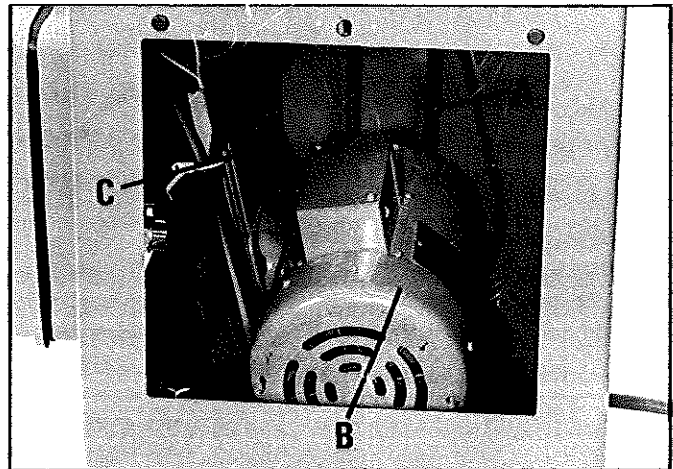

Fig. 5
Assemble the belt (A) Fig. 5, to the arbor pulley and motor pulley. Loosen the nuts and bolts that fasten the motor (B) to the motor plate (C) and move the motor up or down on the motor plate until correct belt tension is obtained. Correct tension is obtained when there is approximately 1" deflection in the center span of the belt (A) Fig. 5, using light finger pressure. Visually align the motor pulley to the arbor pulley. If necessary the motor pulley can be moved in or out on the motor shaft or the complete motor plate assembly (C) Fig. 5, can be shifted to bring the pulleys into alignment.